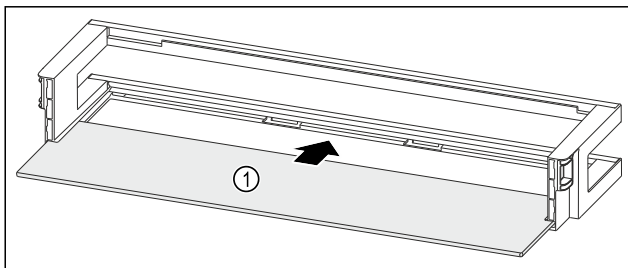

Fig. 182 Door rack with shelf
- ▶ Push the shelf Fig. 182 (1) into the side recesses.